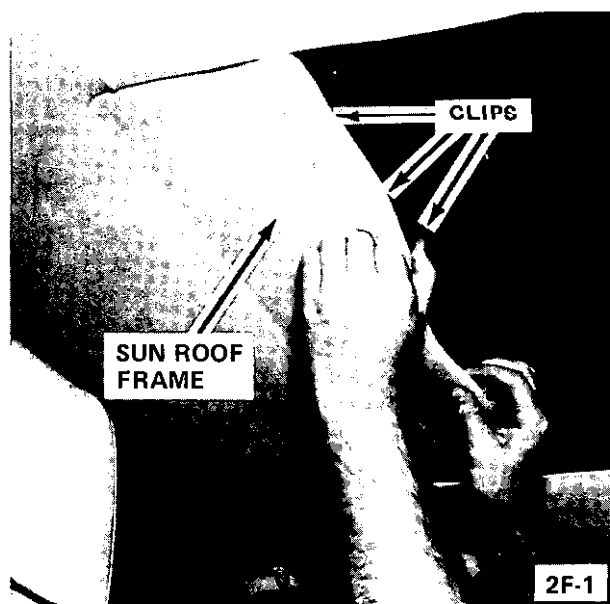

Figure 2F-1 Separating Sun Roof Frame From Sun Roof Panel
1. Opel sun roof to half open position and pry apart sun roof frame from sun roof panel (see Figure 2F-1).